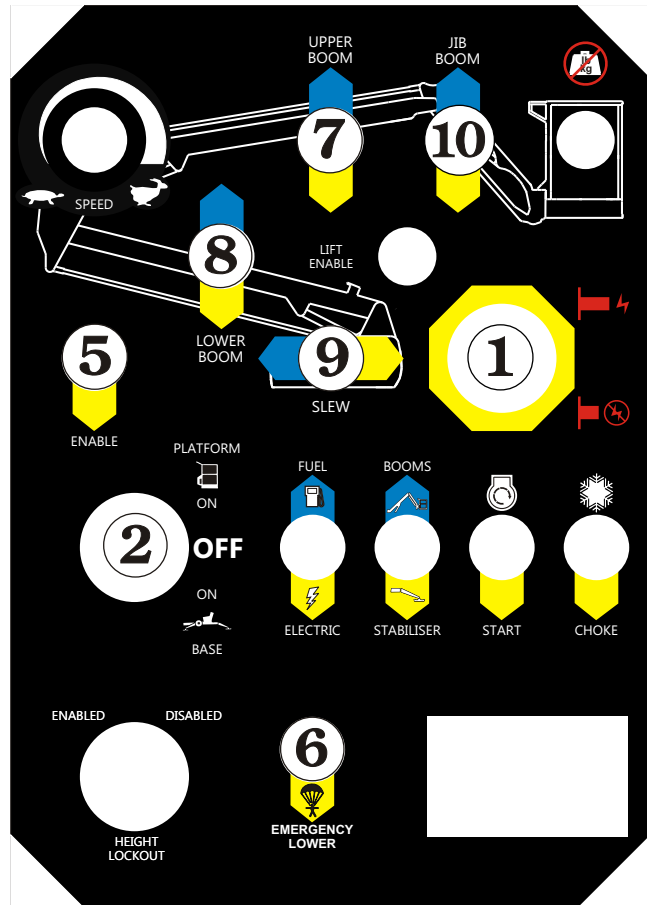

Figure 11.8 - Ground Controls, Machines with Electric Controls
1. The **Emergency Stop** switch **1** must be (ON) (see Figure 11.8).
2. The **Platform/Ground Selector** switch **2** (see Figure 11.8) must be set to GROUND.